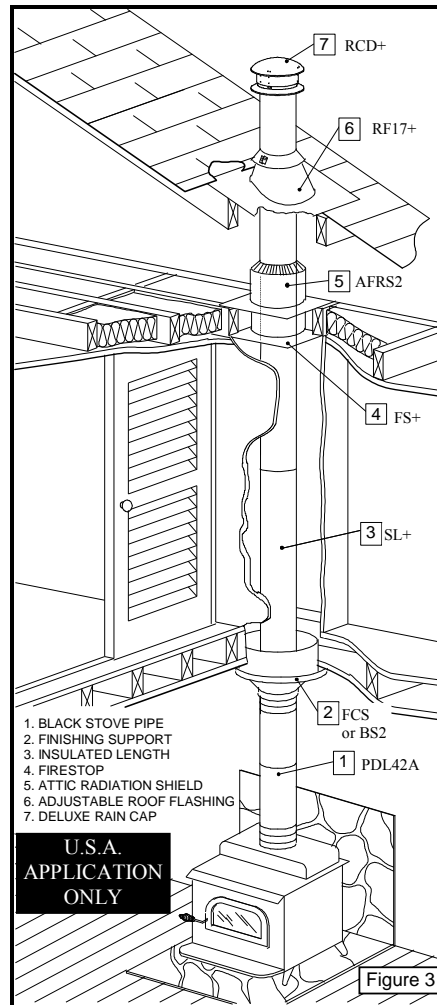

Figure 3
- 3 Put this first chimney length in the support. Push it down firmly in place (see Fig. 3). Turn it clockwise to lock it in place.